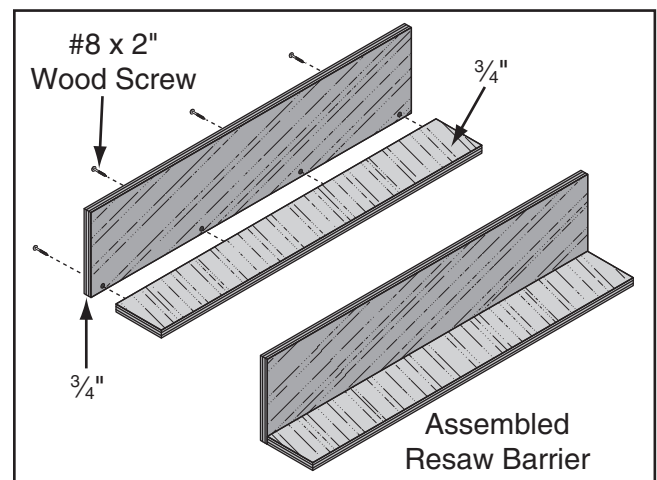

Figure 93. Resaw barrier.
3. Glue the end of the 3" board, then clamp the boards at a 90° angle with the larger board in the vertical position, as shown in **Figure 93**, then fasten together with the wood screws.